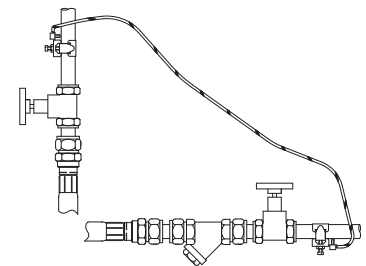

Fig. 5
3.15 **Adjacent pipes:** Adjacent suction and delivery pipes should be fitted with earthing clamps to BS 951 in accordance with current regulations (Fig. 5).